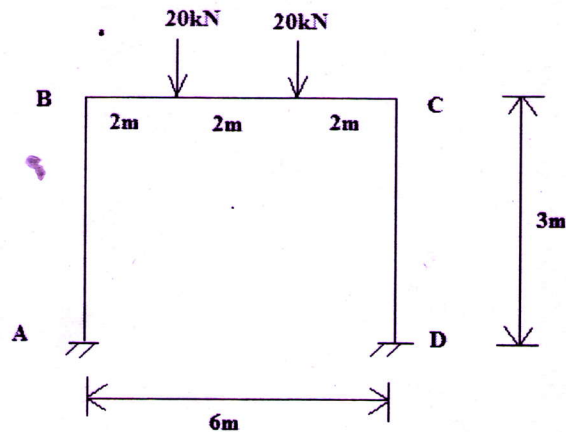

Fig. 8
- 18 Determine the end moments of a frame shown in Fig.8 using direct stiffness method and draw BMD. (14)